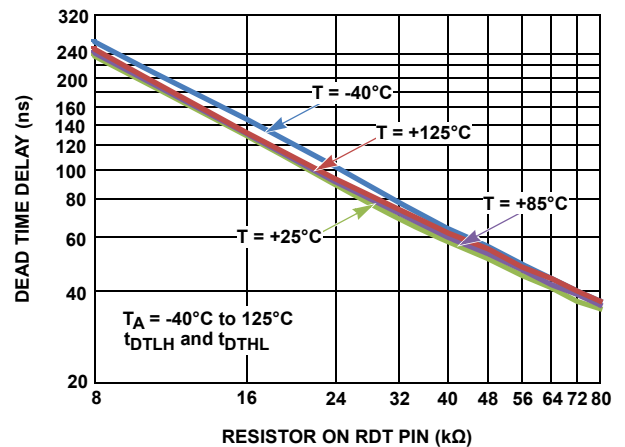

FIGURE 8. DEAD TIME DELAY VS RDT RESISTOR
When the PWM input transitions high or low, it is necessary to ensure that both bridge FETs are not on at the same time to prevent shoot-through currents. The ISL78420 programmable timers delay the rising edge of the high-side (HO) and low-side (LO) gate drives so that both FETs are off before one of them is turned on. The dead time delay on the rising edge of LO and HO is programmable with a single resistor from the RDT pin to V_{SS} . The dead time is adjustable from 35ns ($R_{RDT} = 80k\Omega$) to 220ns ($R_{RDT} = 8k\Omega$). It is not recommended to use resistors beyond these values. The dead time is set equal on both falling edges of LO and HO. See "Timing Diagram" on page 6 for the definition of dead time delay. See Figure 8 on page 7 for the programmed dead time vs resistor value.